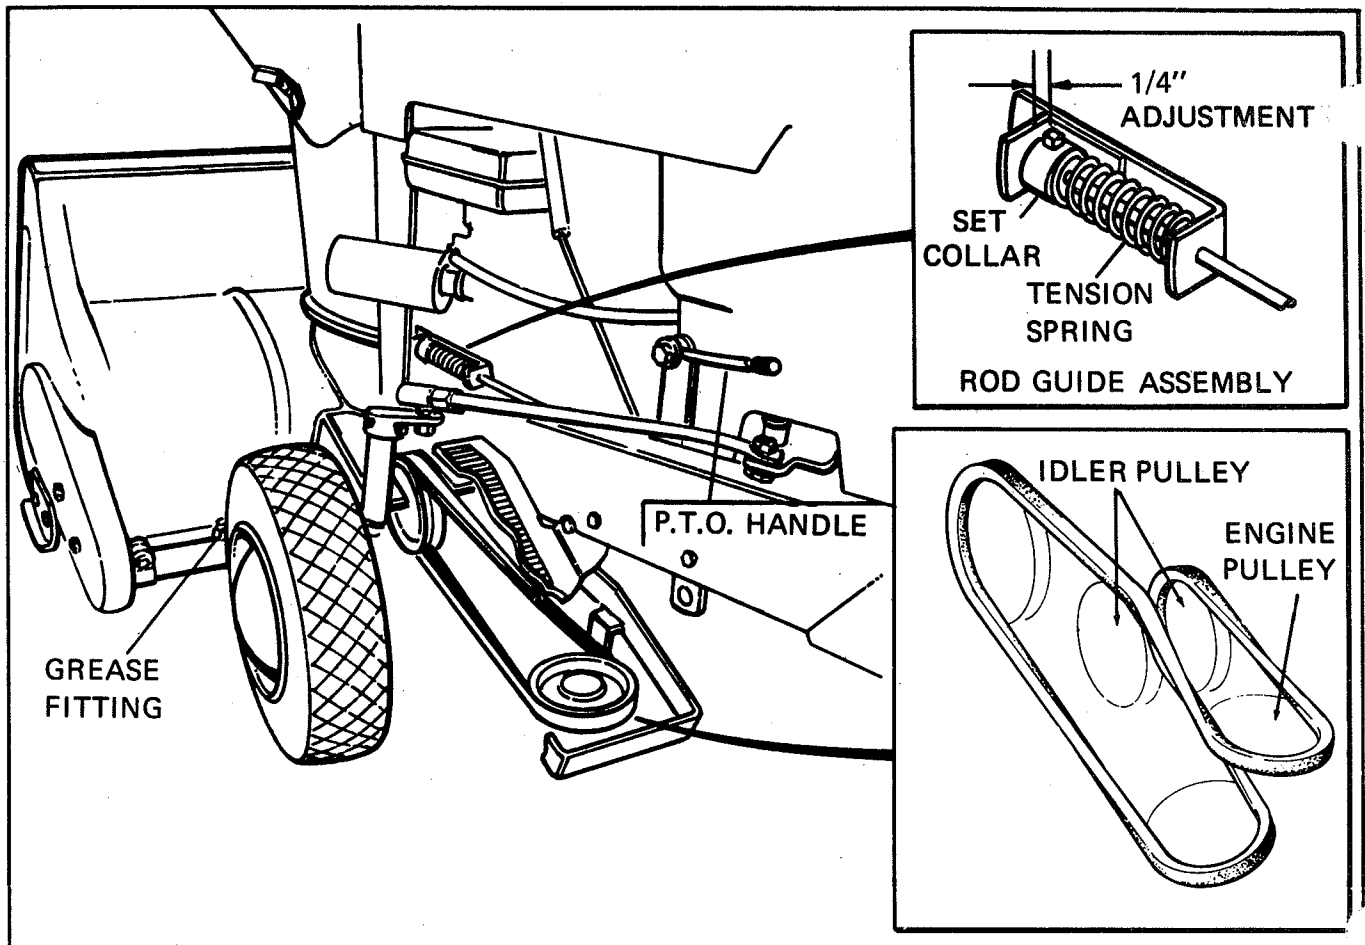

Figure 5.
There is one grease fitting on the Snow Thrower. See Figure 5. Lubricate with a general purpose automotive type grease every 15 hours of operation. Remove the chain guard and apply a coating of grease on chain every 15 hours of operation. Occasional application of light motor oil as indicated on Page 3 will also assist in the operation of the snow thrower.
2. The lower pulley (1), Figure 5, on the hitch assembly may be moved forward or backward in the slotted hole for belt adjustment purposes. Adjust this pulley so there is sufficient belt slack for proper idling of the snow thrower.